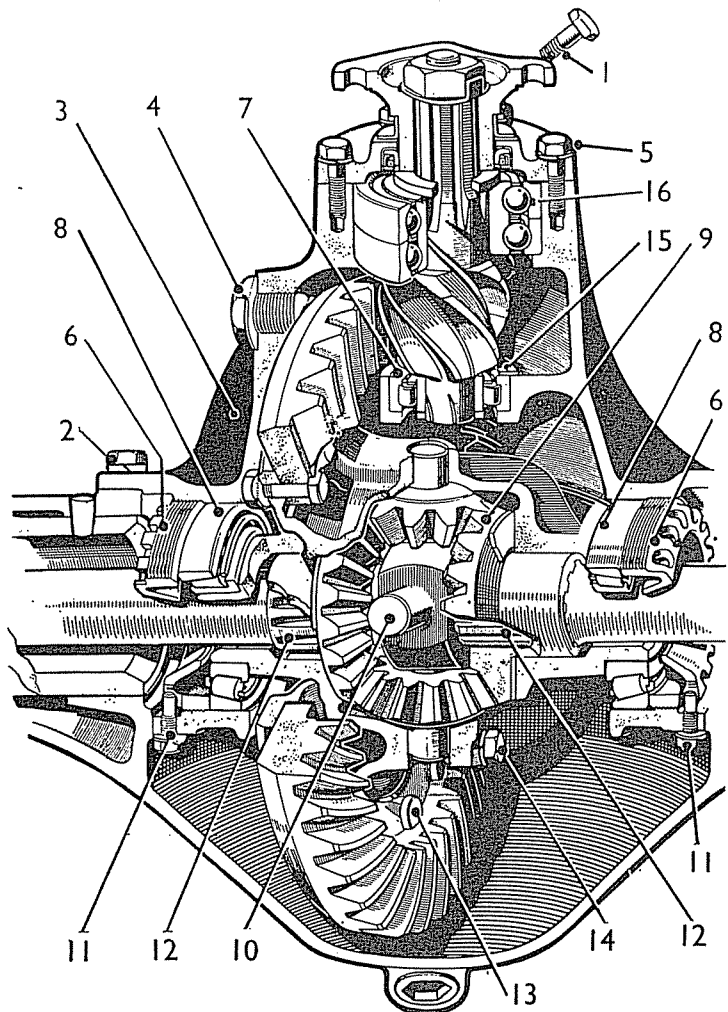

Fig. 36—Rear Axle Model. 3-59A.
22. REMOVAL AND INSTALLATION OF DIFFERENTIAL CARRIER ASSEMBLY. (Refer Figure 36).